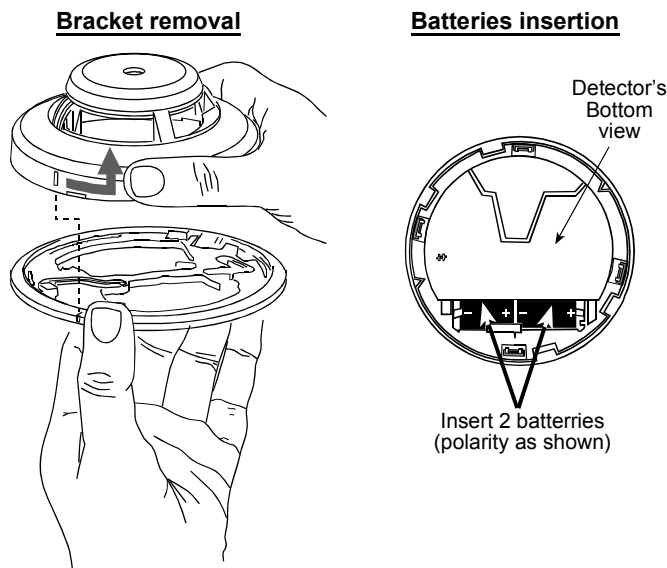

Figure 2 - Bracket Removal and Batteries Installation
- A. Remove the detector bracket and insert the two batteries as shown in figure 2.
- B. Wait 15 seconds approx. following removal of the old batteries prior to inserting of new batteries. Install two new 3-volt CR123A lithium batteries in the battery compartment. Follow the polarity diagram inside the compartment (see figure 2).
- C. Reinstall the smoke detector onto the bracket by turning the detector clockwise (see figure 2).
- A. If the detector is attached to the bracket, separate it from the bracket (see figure 2).
- A. Align the marks on the detector's body with the arrows on the bracket (see figure 2). Push the detector against the bracket and turn it slightly clockwise until it snaps into place. Pull outward to make sure that the detector is securely attached to the bracket.
- A. Grasp the detector's body with your hands, rotate it slightly counterclockwise and pull it off the wall-mounted bracket (see fig. 2).
- B. Remove the batteries at the bottom (see fig. 2).